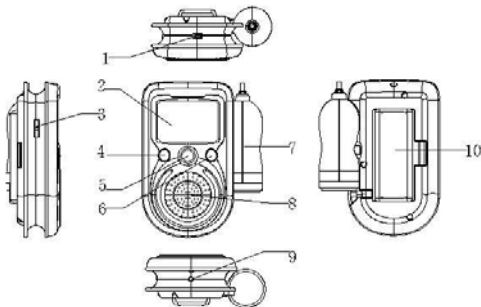

Figure 3.1.1
3.1. Description of the Front Panel & Rear Panel (as Figure 3.1.1)